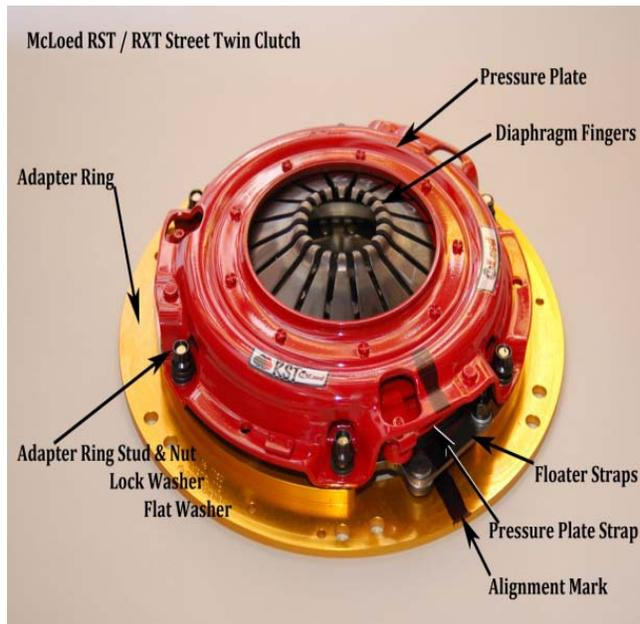

Figure 1
- 1) See Figure 1 for component parts identification and alignment mar